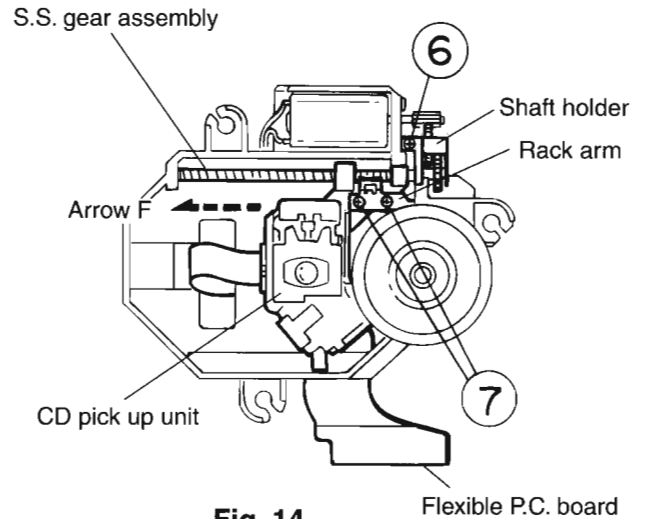

Fig. 14
4. Shift the CD pick up unit in the arrow F direction (see Fig. 14).
5. Remove the one screw 6 retaining the shaft holder (see Fig. 14).
6. After removing the two screws 7 retaining the rack arm, take out the S.S. gear assembly (see Fig. 14).